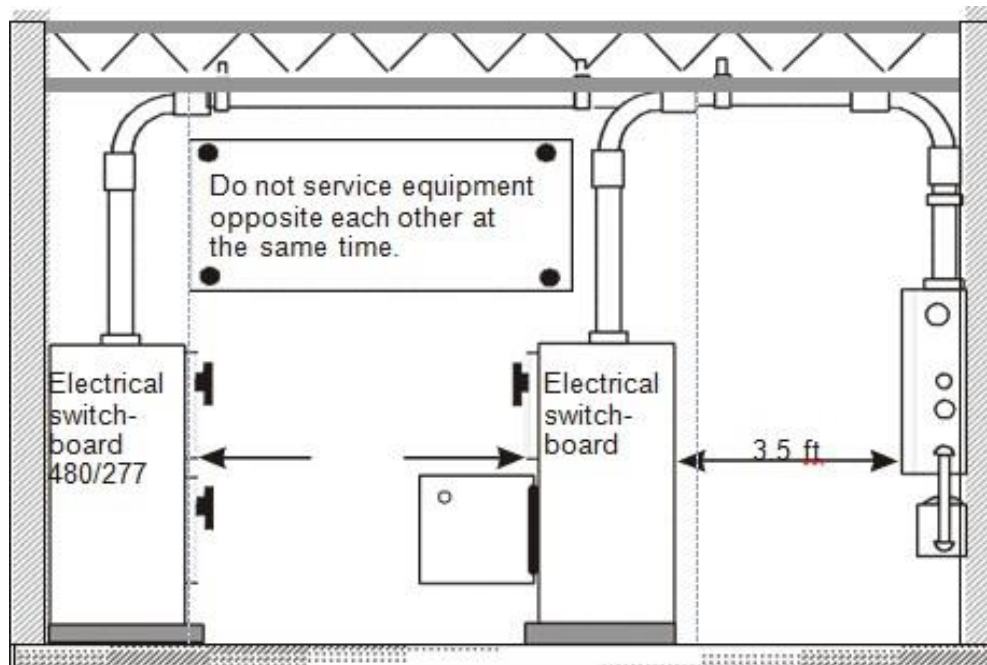

Figure 6.2 – Access and working space requirements around enclosures and equipment
- A. Figure 6.2 and Table 6.4 provide access and working space distances around electrical equipment and enclosures, e.g., panel boards, motor controls, disconnects, etc., to permit ready and safe operation and maintenance. Always keep working space clear.